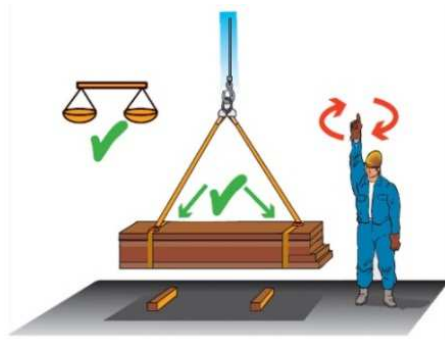
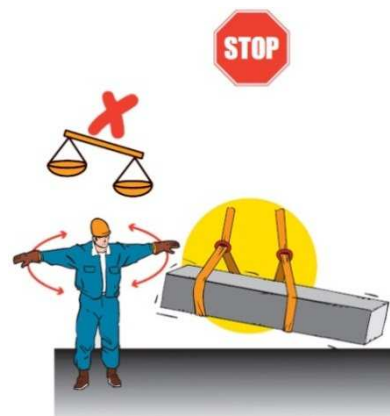

Fig. 5.3-12 - "Load up" signal
Fig. 5.3-13 - "Stop" signal
- *Once the harness has been checked, load lifting (Fig. 5.3-12) can be started, taking care that it occurs vertically avoiding dangerous inclinations, since cause changes in the load balance which may cause the load to be released and which may increase the stress in the harnessing equipment. Immediately give the “stop” signal in case of danger (Fig. 5.3-13);*